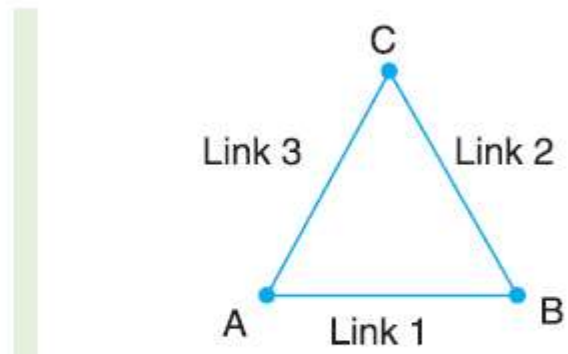

Fig. 5.6. Arrangement of three links.
1. Consider the arrangement of three links  $AB$ ,  $BC$  and  $CA$  with pin joints at  $A$ ,  $B$  and  $C$  as shown in Fig. 5.6. In this case,
Since the arrangement of three links, as shown in Fig. 5.6, does not satisfy the equations (i) and (ii) and the left hand side is greater than the right hand side, therefore it is not a kinematic chain and hence no relative motion is possible. Such type of chain is called **locked chain** and forms a rigid frame or structure which is used in bridges and trusses.